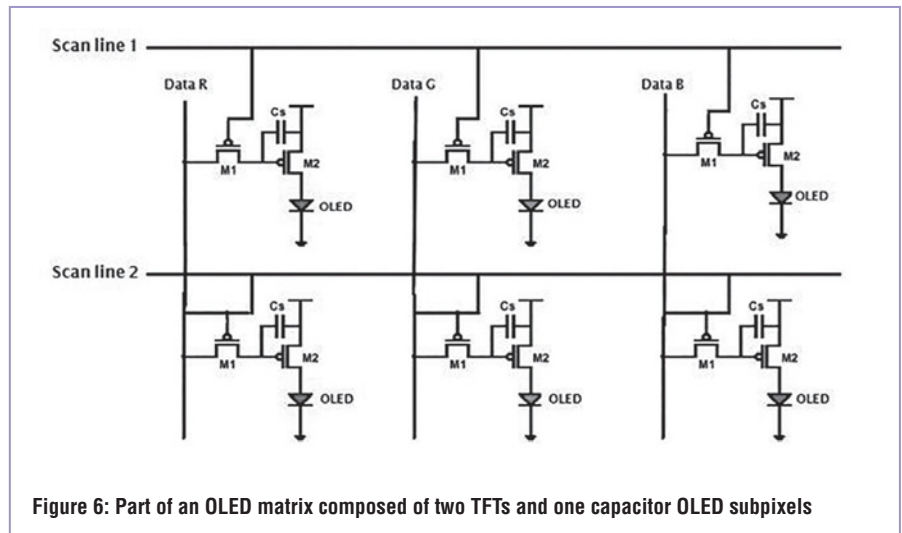
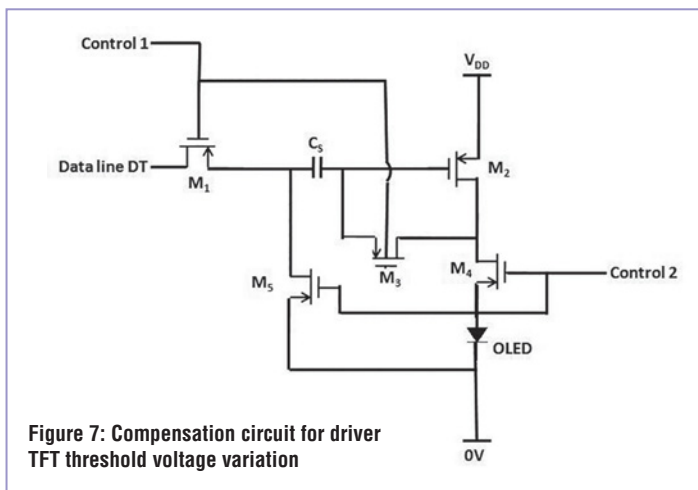

Figure 6: Part of an OLED matrix composed of two TFTs and one capacitor OLED subpixels
Figure 7: Compensation circuit for driver TFT threshold voltage variation
Figure 6 shows two scan lines of a matrix display, each consisting of three subpixels: R, G and B employing 2TFTs, M_1 and M_2 , and one storage capacitor, C_s . At the start of a frame, scan line 1 is selected by a negative-going pulse V_{SEL} turning on all the M_1 TFTs along that line, and all the M_2 TFTs off. All other lines are at ground level with their M_1 TFTs off.
compensation is shown in Figure 7. The pixel consists of four switching TFTs (M_1 , M_3 , M_4 and M_5), one driving TFT (M_2), and one capacitor C_s . The arrangement has two control lines (Control 1 and 2) and a data line (DT). M_1 is the line selection switch, M_3 is used for the diode connection with M_2 , and M_4 blocks current through the OLED during the data input period. The operation of the circuit is divided into two periods: data input and emission. During the pre-data input period (previous frame) Control 1 is high and Control 2 is low, see Figure 6.